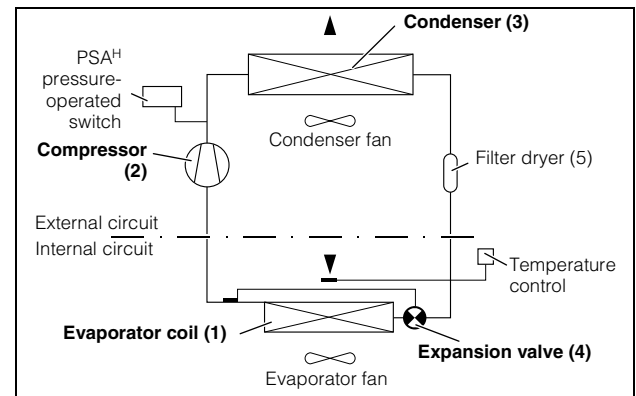

Fig. 2: Cooling circuit
The cooling unit (compression refrigeration system) is comprised of four main components (see Fig. 2): the evaporator (1), the refrigerant compressor (2), the condenser (3), and the control or expansion